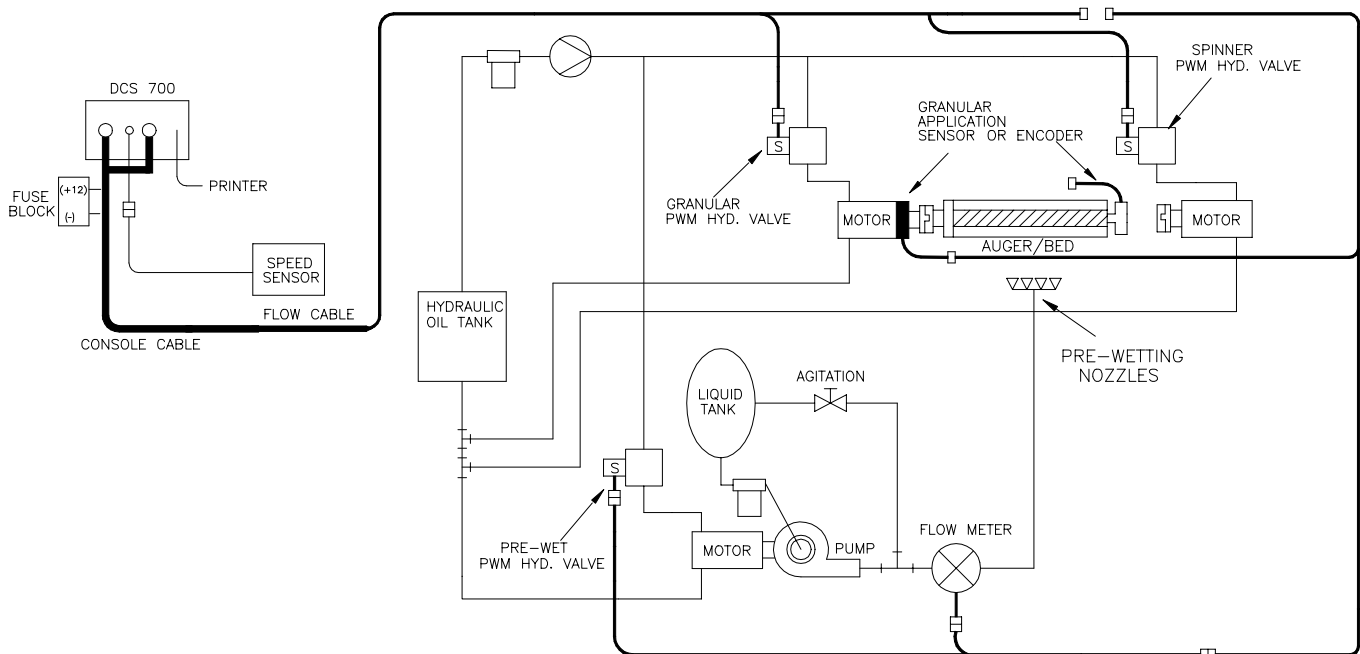

FIGURE 5
- 1) Mount Flow Meter in the area of the liquid control per Figure 5. All flow through Flow Meter must go to pre-wetting nozzles only, i.e., no return line to tank or pump after Flow Meter.